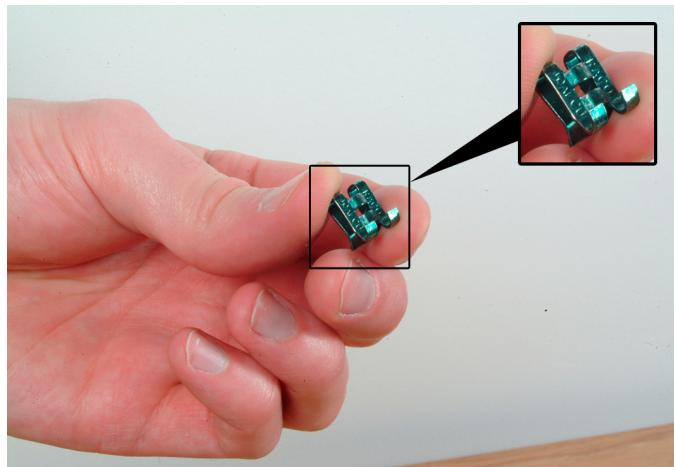

Figure 12. Grounding clip used to attach a wire to a metal outlet box.
6. Make the electrical connections required to wire the branch circuit supplying power to the three-phase receptacle. Figure 12 shows a grounding clip used to attach a wire to a metal outlet box.